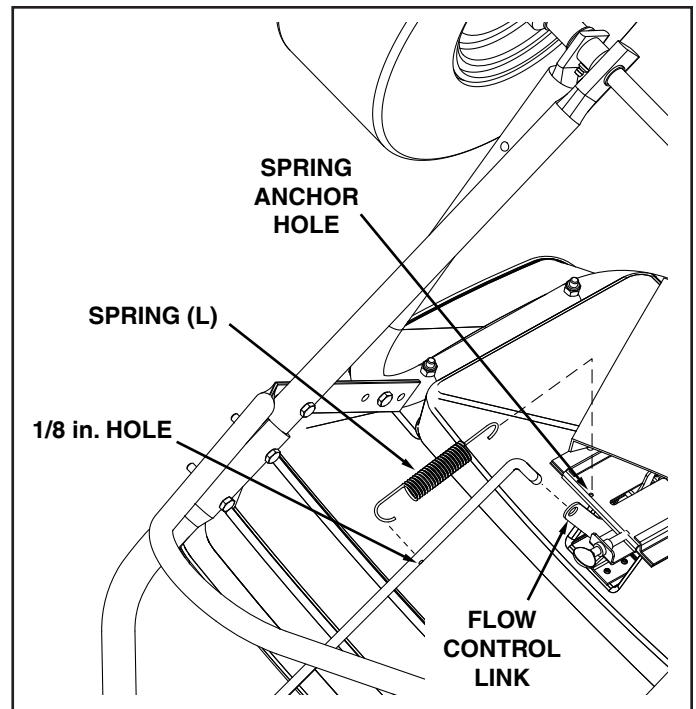

FIGURE 7
11. Attach the spring to the stainless steel pattern plate as shown. Attach the opposite end of the spring to the 1/8 in. hole in the flow control rod. Rotate the end of the rod into the flow control link. See figure 7.